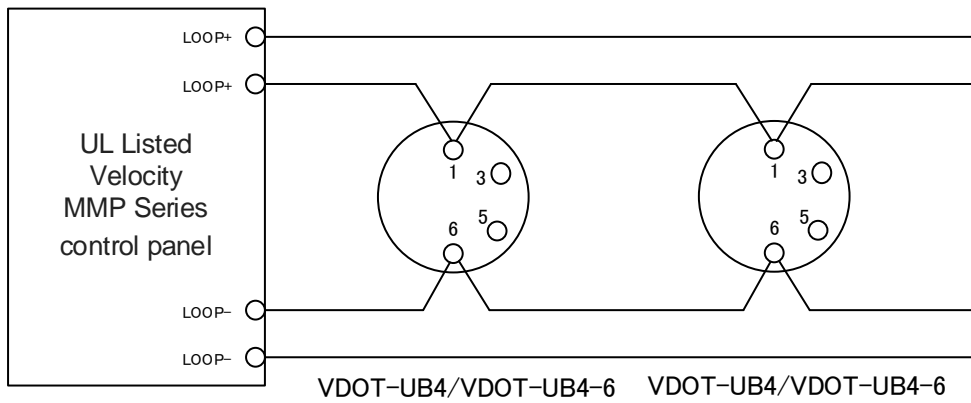
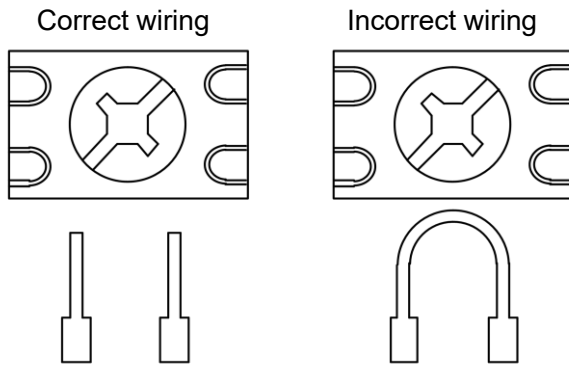

Figure 13: Wiring diagram for VDOT-UB4 and VDOT-UB4-6
Figure 14: Correct and incorrect wiring method
1. Pass the field wiring through the rear center cable opening in the mounting base. Install the base to the electrical box with screws via the base mounting holes. Connect the field wiring to the base terminals, as detailed in Figure 13. Do not use looped wire under terminals (See Figure 14).